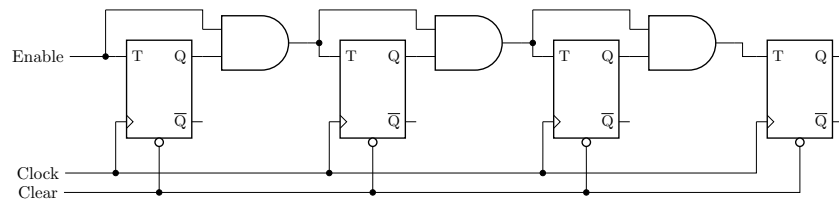

Figure 1: A 4-bit synchronous counter using T-type flip-flops.
Consider the circuit in Figure 1. It is a 4-bit synchronous counter which uses four T-type flip-flops. The counter increments its value on each positive edge of the clock if the Enable signal is high. The counter is reset to 0 on the next positive clock edge if the asynchronous Clear input is low. You are to implement an 8-bit counter of this type.
1. Write a VHDL file that defines an 8-bit counter by using the structure depicted in Figure 1. Your code should include a T flip-flop entity that is instantiated 8 times to create the counter.